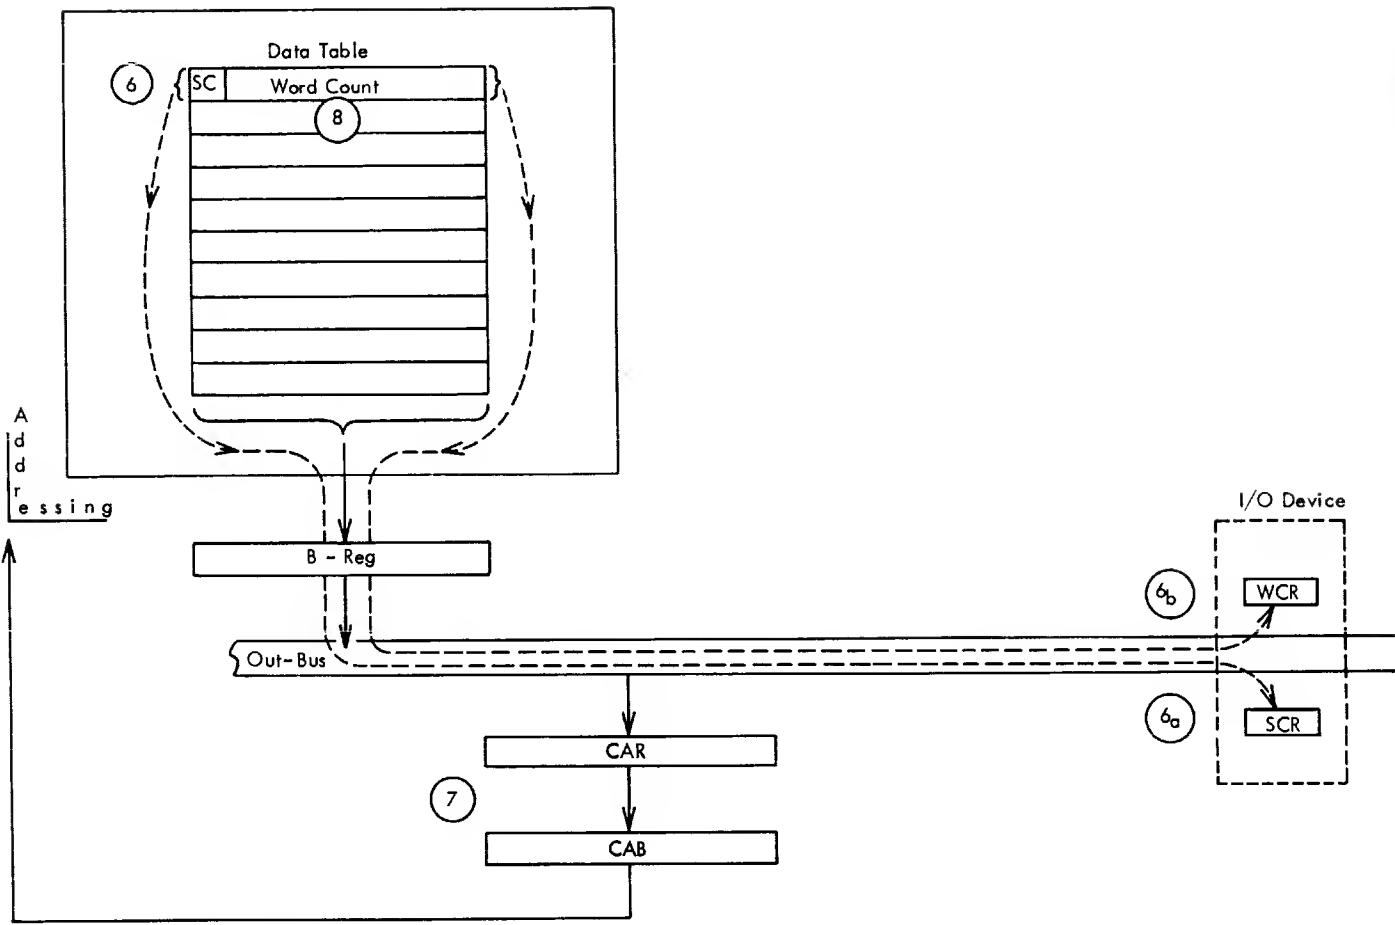

Figure 22. Data Channel Operation
5. CAB addresses core storage for the first word of the data table while CAR is being incremented. (Steps 6 through 8 are shown in Figure 22.)